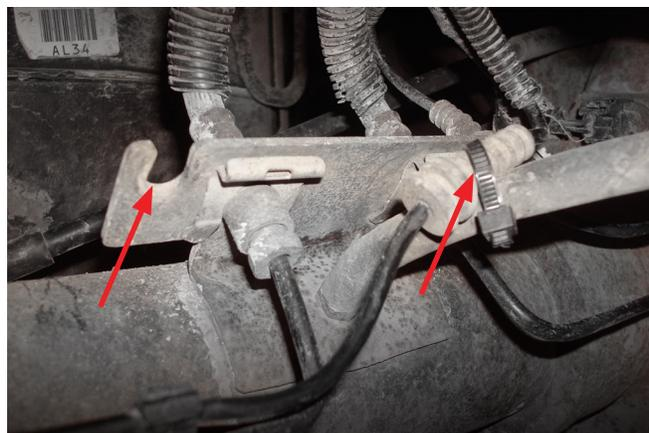

Fig. 6
5. Remove the driver's (left) side ABS line off the ABS/brake line junction bolted to the axle (Fig. 6) and zip tie (BB) the ABS line to the axle vent tube.